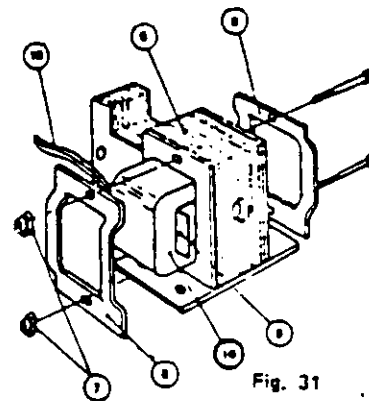
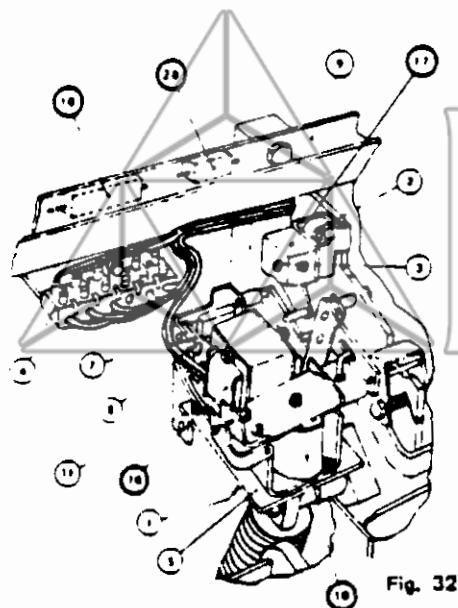

Fig. 31
Fig. 32
H. Closing Solenoid (Fig. 31, 32). Slide coil and housing from plunger (Fig. 31) after removing coil wires from terminal block (4) and four mounting bolts (11). (Fig. 32) If breaker is equipped with closing preventer which would be mounted adjacent to the closing solenoid, the coil and housing cannot slide sideways. It is,
therefore, necessary to remove horseshoe retaining washer (8) and linkage pin from plunger so complete assembly may be lifted out. Coil may be removed from housing as illustrated in Fig. 31. When replacing, make adjustments as described in Chapter IV, Voltage Tripping Devices.
- I. Closing Preventer (Fig. 32). The closing preventer (19) located directly behind the closing solenoid, may be removed by removing coil wires and two holddown bolts from base (5). When replacing closing preventer, make adjustments as described in Chapter IV, Undervoltage Lockout.